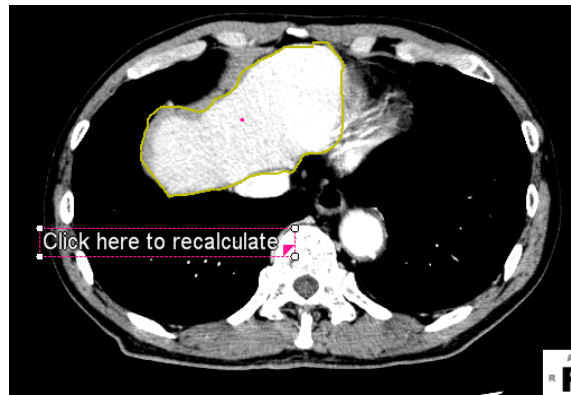

Figure 3-59 Outline of Liver (yellow contour)
3. When you have completed the outline, release the mouse. The outline appears as shown in Figure 3-59.